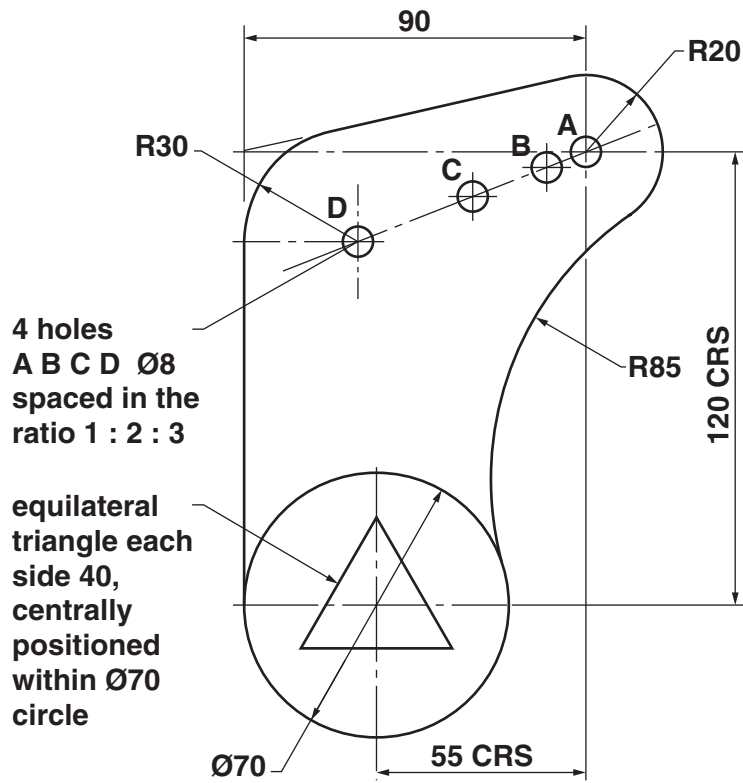

Fig. 1
- 1 Fig. 1 shows a lever plate.